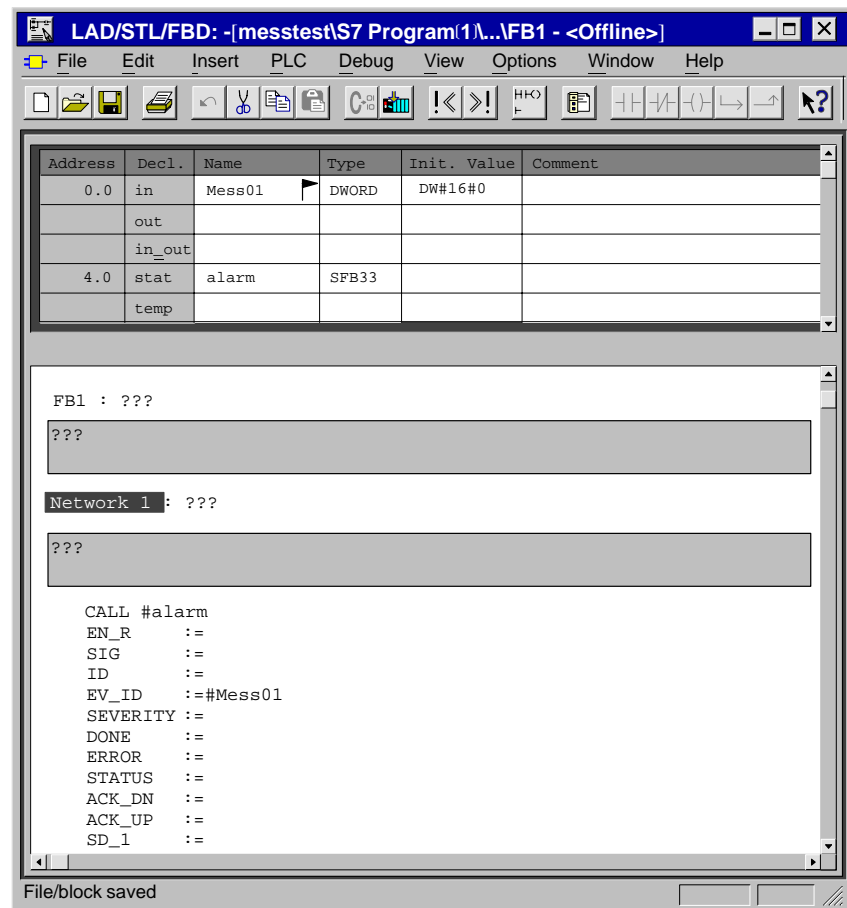

Figure 12-2 Example of a Filled Out Variable Declaration Table and Code Section in a Message-Type Function Block
To do this, enter the following variables in the “Declaration” column of the variable declaration table (see Figure 12-2):
6. Assign the symbolic name you set in step 2. for the message block input to the variable “EV\_ID”, here “Mess01”, as shown in Figure 12-2. Save the block with the menu command **File ► Save** and close the block.